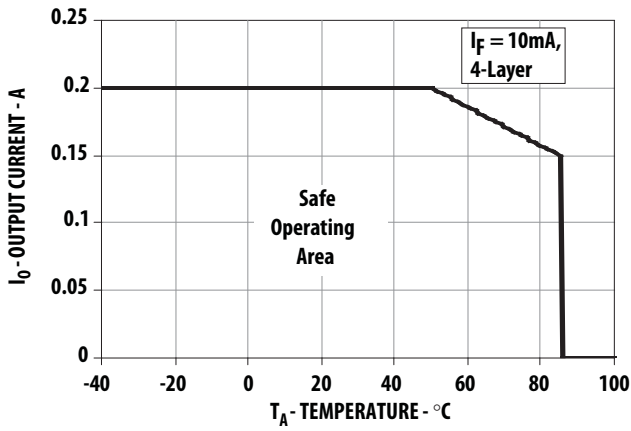

Figure 1. Maximum Output Current Rating vs Ambient Temperature (AC/DC Connection)
- For derating, refer to Figure 1 and 2.